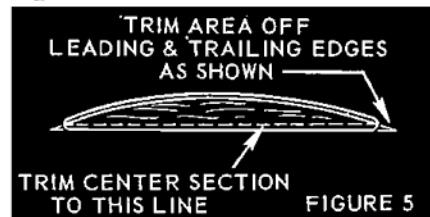

FIGURE 5
Step 10. When dry, pick up the wing panel assembly and trim off the ribs at the leading edge and trailing edge. Also, trim off the center ribs so the bottom flat surface is flush with the leading edge and trailing edge. This is so you can get a flat surface at the center section when you join the two panels. See Fig. 5.